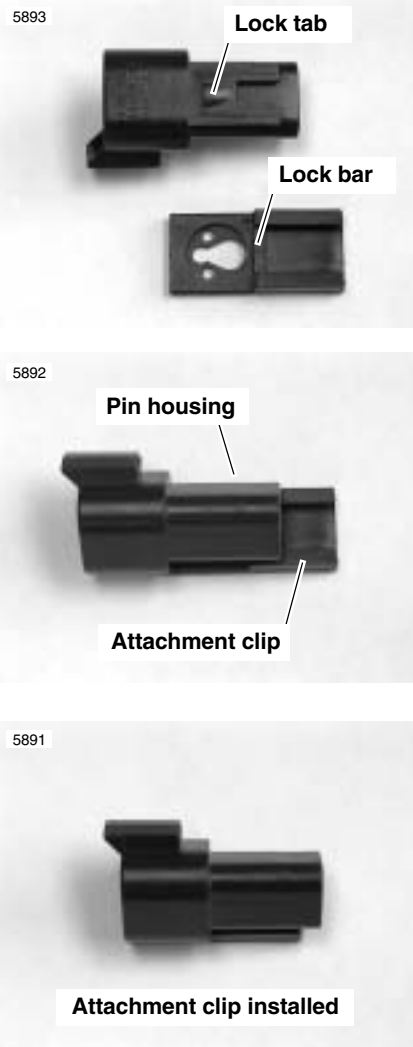

Figure B-11. Attachment Clip Installation
2. See Figure B-11. Fit the attachment clip to the pin housing, if removed. Place large end of slot on attachment clip over T-stud on frame. Push assembly forward to engage small end of slot.